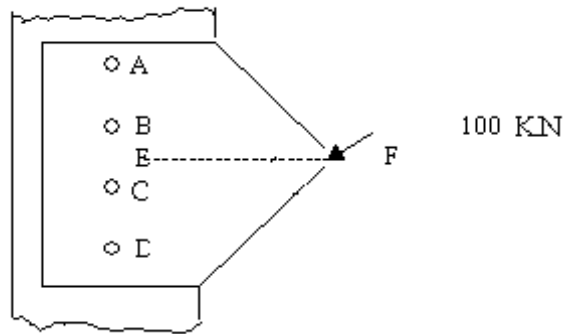

Figure 4
4. A bracket in the form of a plate is fitted to a column by means of four rivets A, B, C and D in the same vertical line as shown in Figure4. $AB = BC = CD = 60 \text{ mm}$. E is the mid-point of BC. A load of 100 kN is applied to the bracket at a point F which is at a horizontal distance of 150 mm from E. The load acts at an angle of 30° to the horizontal. Determine the diameter of rivets, which are made of steel having a yield stress in shear of 240 MPa . Take a factor of safety of 1.5 .